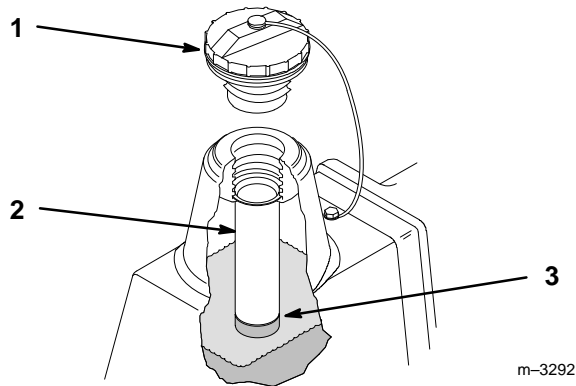

Figure 42
2. Clean area around filler neck of hydraulic tank (Fig. 42).
3. Remove cap from filler neck and look inside to check fluid level. Fluid level should be above the bottom of the screen (Fig. 42).
4. If level is low, add fluid to raise level to above the bottom of the screen (Fig. 42).